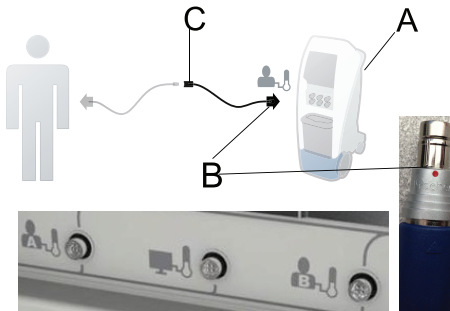

Figure 1 –
- Align the red dot on the **Reusable Adapter Cable** (B) to the controller (A) patient probe port A or port B (Figure 1).